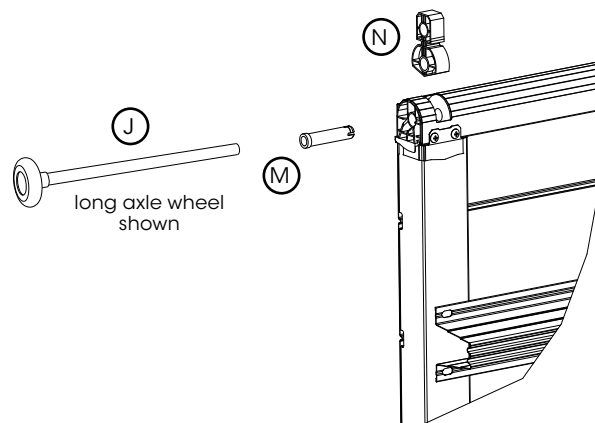

Fig: 2.2.4
- e) Insert the hinge link (N) into the recesses of the top of the panel and fix into place using the white hinge pins (M). Fig 2.2.4.
- f) Insert 2 x the appropriate wheel axle (J) (standard, extended or smooth track) into the top of the panel.